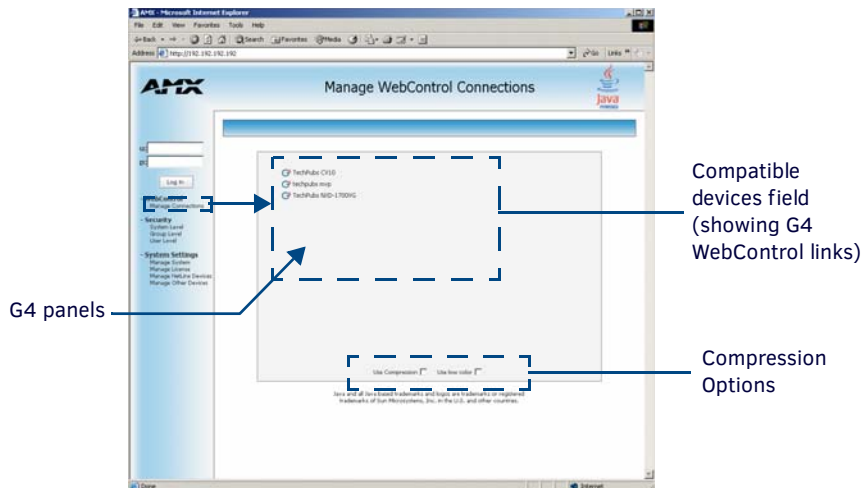

FIG. 43 Manage WebControl Connections page (populated with compatible panels)
4. Click **OK** to enter the information and proceed to the Master's *Manage WebControl Connections* window. This page (FIG. 43) is accessed by clicking on the **Manage connections** link (*within the Web Control section within the Navigation frame*).